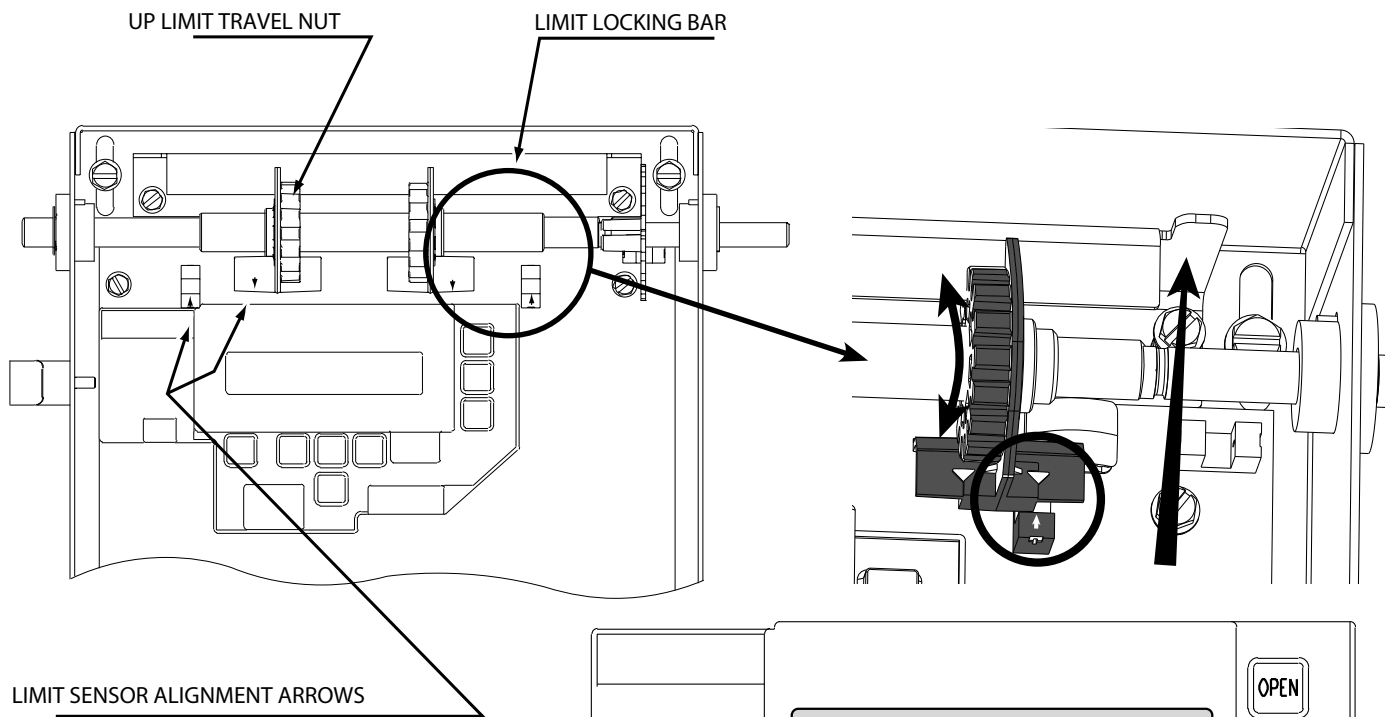

Fig. 6
5. Release the LIMIT LOCKING BAR and make sure bar seats completely into both Travel Nuts. Fig. 6.